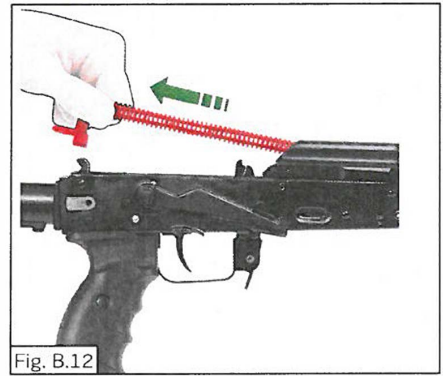

Fig. B.12
- detach the retracting mechanism upwards as shown in Fig. B.12;